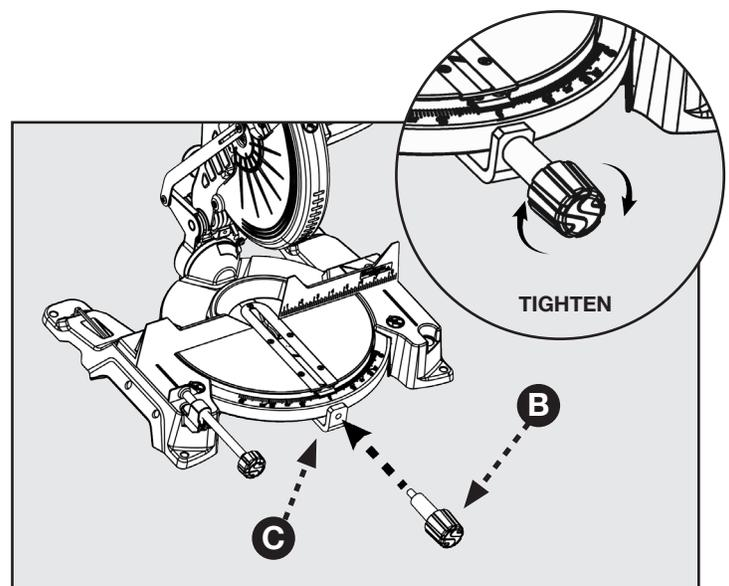

FIGURE 3
1. See Figure 3 and attach the miter lock knob by screwing the end of the miter lock handle (B) into the threaded hole (C) in the control arm. Tighten by rotating the lock knob clockwise.